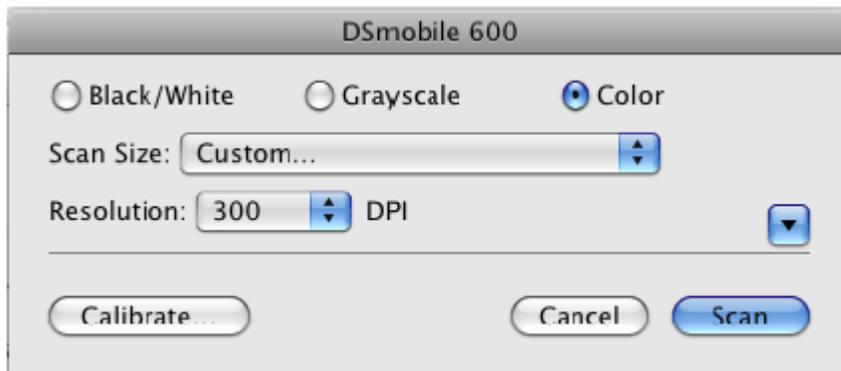

Figure 5. Calibrate Button
9. Click the “Calibrate” button (See Figure 5).
12. When the calibration scan is complete, click "OK" and then proceed to scan your documents (See Figure 5).